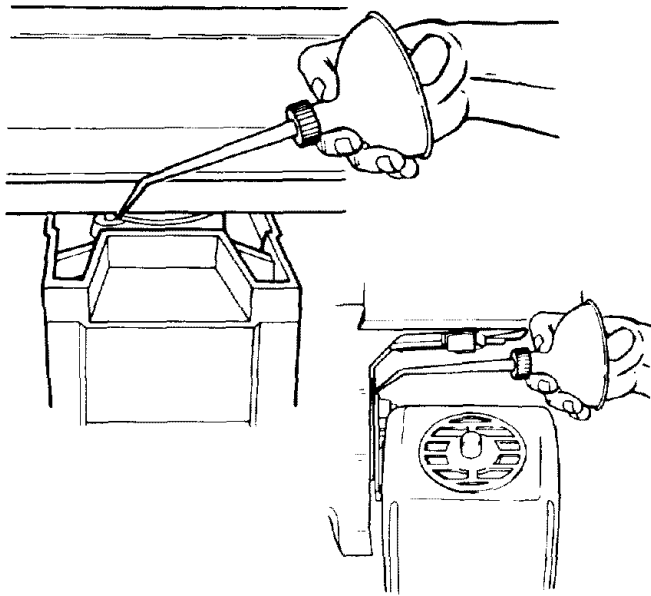

Fig. 147 - Swivel and Bevel Index Pins
- Apply a few drops of oil along the *swivel index pin* and the *bevel index pin* only if the pins have a tendency to stick. Swivel to in-rip or out-rip for each access to the *swivel index pin*. Bevel to 45° and *bevel index pin* can be easily accessed behind the *yoke* as illustrated. (Figure 147)